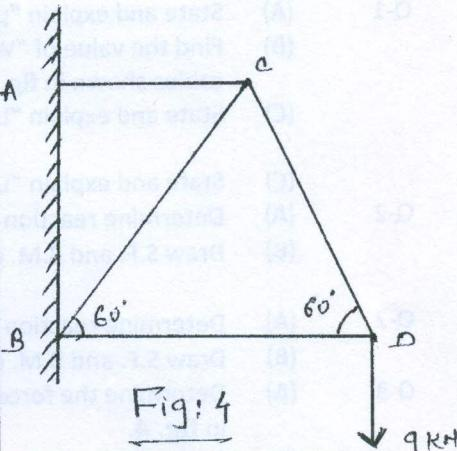

Fig: 4
- (C) A weight 2500 N is suspended with a chain 1.8m long. It is pulled by [5] horizontal force 400 N as shown in fig.4. Find the force in chain and distance "X".